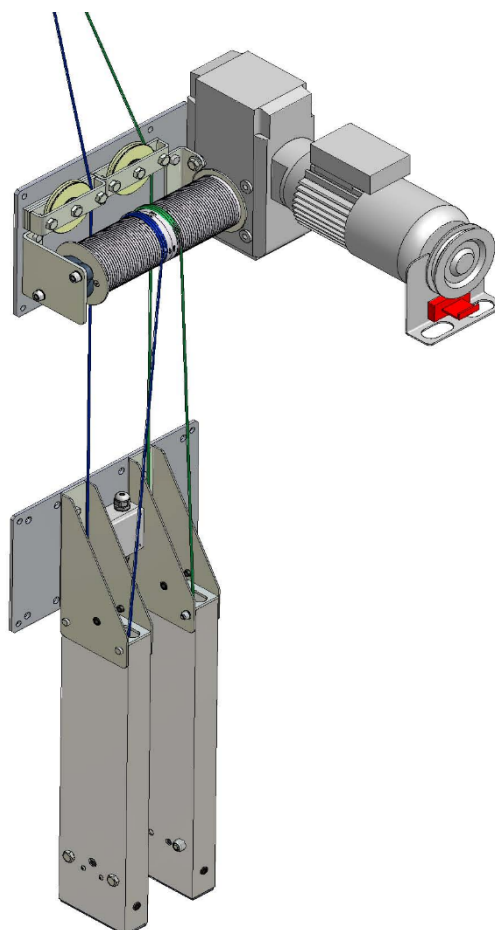

Figure 12
3.7 Fit Counterweight Containment Boxes (E1) onto Counterweight Plate (C1) using the M8 x 70 Bolts that are placed in the Counterweight Plate fixing holes, see Figure 12.